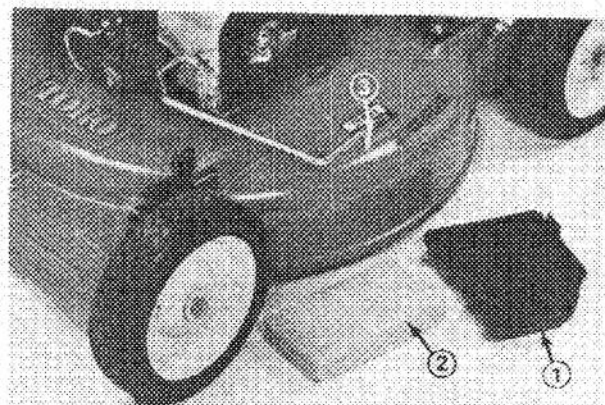

Figure 21
2. Raise rear of air cleaner protection rod and pivot outward (Fig. 21). Lift tabs at top of air cleaner cover (Fig. 21) and pivot cover outward. Clean cover thoroughly.
3. Look at foam element around filter. If it is dirty, the element must be removed from air cleaner body and cleaned (Fig. 21).